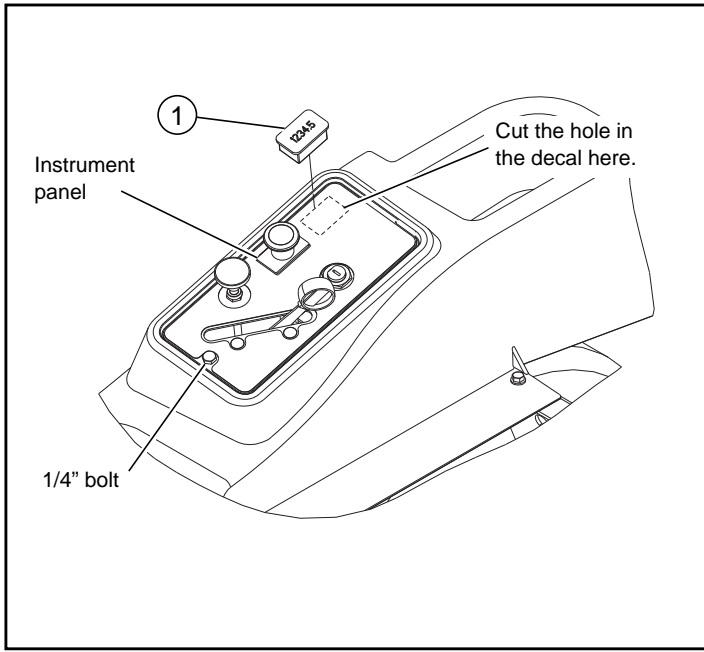

FIG. 1
3. Access the wiring connections and the bottom of the instrument panel on the right side fender by removing the 1/4" bolt, lifting the front edge of the instrument panel, sliding it forward and lifting it far enough away from the fender to allow disconnecting the ignition switch. Fig. 1
4. Locate the .95" x 1.46" slot on the underneath side of the instrument panel that has been covered by the instrument panel decal. Using the panel as a guide, cut a rectangular hole in the instrument panel decal for the hour meter. Fig. 1
5. Insert the hour meter into the rectangular cut-out oriented as shown in Fig. 1. It will snap into place.